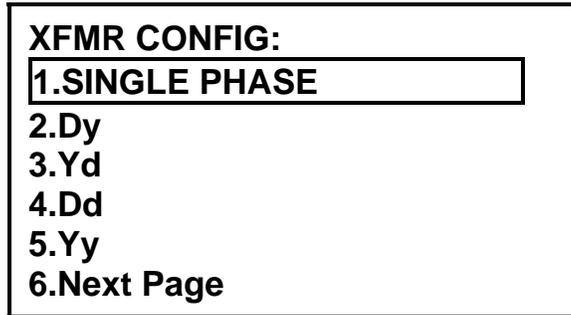
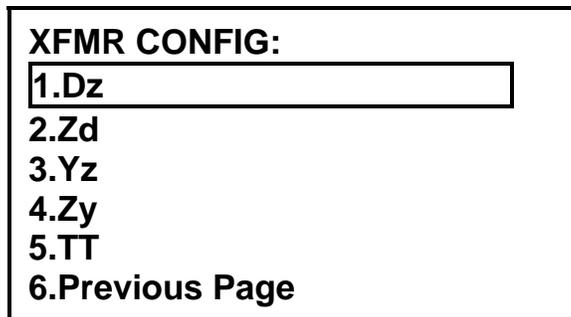

Figure 15.0 Transformer Configuration Selection First Menu
Figure 16.0 Transformer Configuration Selection Second Menu
- a. **Description:** Either “Transformer Configuration Selection Menu” above will allow the operator to select the transformer type to be tested. There are two menus for this selection. The first menu is shown in Figure 15.0 which is displayed first. When the operator selects “Next Page” from the first menu, the second menu is displayed as shown in Figure 16.0.
- b. **Origin:** The transformer nameplate voltage menu displays after selecting “Single Phase” from options listed in the “Transformer Configuration Selection Menu” (Figure 15.0). For other transformer configurations, this menu displays prior to the “Start/Stop Test” status display.